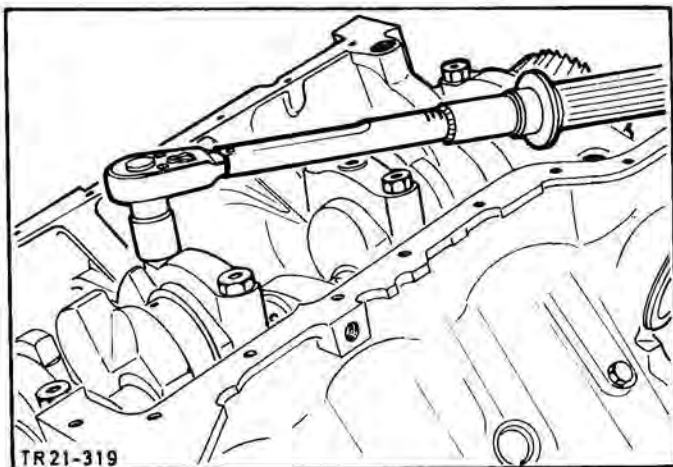

Fig.52. Torque main bearing cap bolts.
36. Tighten bearing cap bolts evenly to the specified torque, Fig.52. Only tighten bolts fingertight on bearing providing axial guidance. First, press the crankshaft to the rear as far as it will go and then slide it slowly forwards as far as it will go and hold it in this position. Tighten bolts of bearing cap to specified torque in this position. (This procedure is required to ensure that the thrust washer halves bear uniformly).